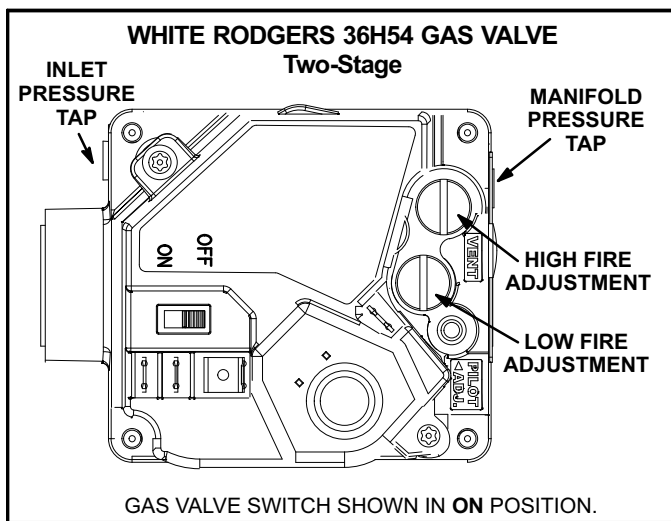
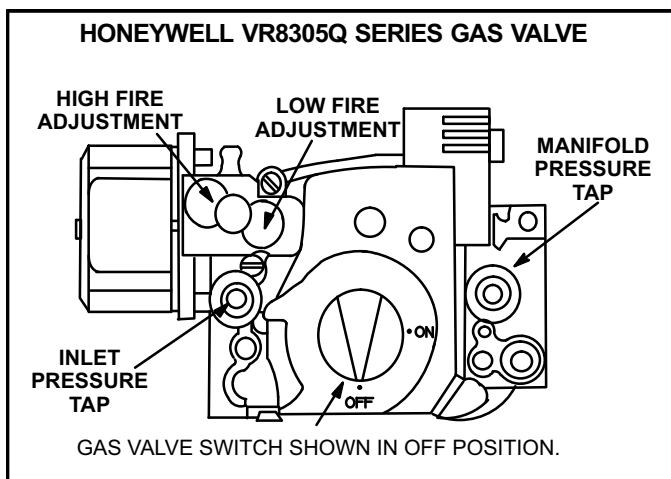

FIGURE 16
FIGURE 17
Gas Valve Operation for Honeywell VR8305Q or White Rodgers 36H54 (figure 16 or 17)
- 5- Turn gas valve switch to **OFF**. See figure 16. On Honeywell VR8305Q gas valves, turn the knob on the gas valve clockwise  to "OFF". Do not force. See figure 17.
- 6- Wait five (5) minutes to clear out any gas. If you then smell gas, **STOP!** Immediately call your gas supplier from a neighbor's phone. Follow the gas supplier's instructions. If you do not smell gas, go to the next step.
- 7- Turn gas valve switch to **ON**. See figure 16. On Honeywell VR8305Q gas valves, turn the knob on the gas valve counterclockwise  to "ON". Do not force. See figure 17.